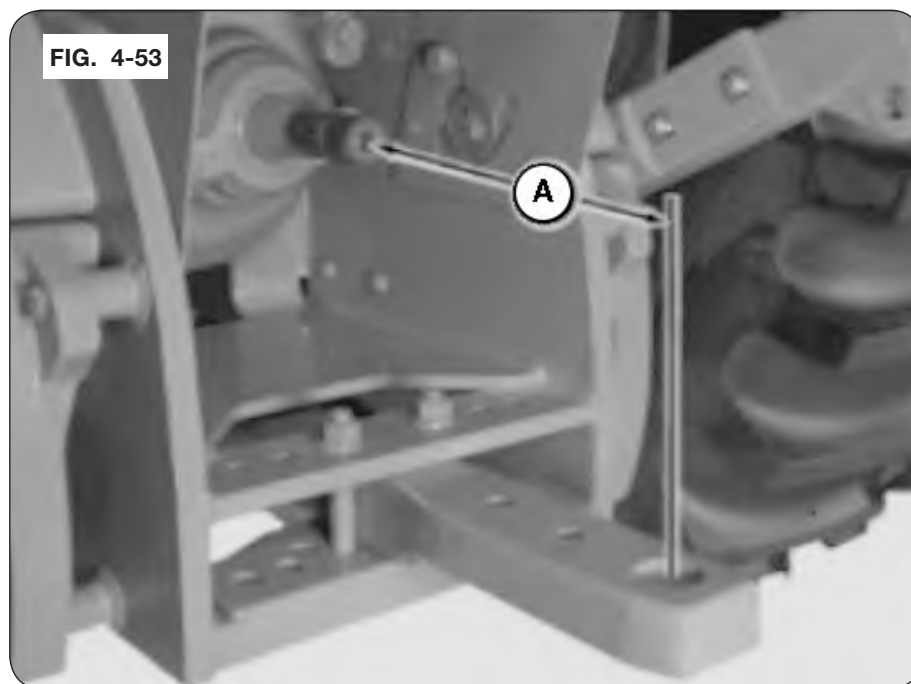

FIG. 4-53
- The driveline is designed to operate with the tractor drawbar set to 20" behind the rear end of the PTO shaft to center of hitch pin. Dimension (A) in picture. Failure to do so will result in driveline damage. DO NOT modify the PTO. (FIG. 4-53)